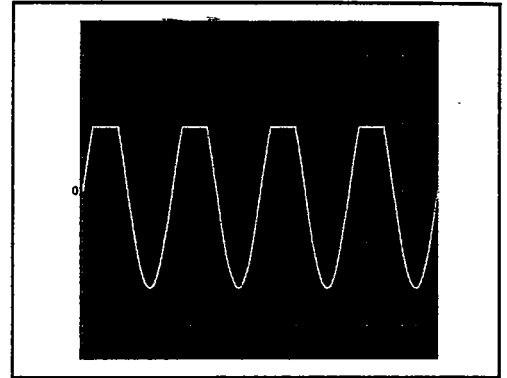

Figure 5-6. Premature Clipping
Does the excessive THD occur only with a load on the channel output? Premature clipping on either the positive or the negative waveform peaks (Figure 5-6) that disappears when the output load is disconnected indicates a likely power supply problem, a zener diode problem, or output transistor problem. Turn off the Variac and check the power supply bridge rectifier(s). All four diodes of the bridge rectifier must be in working condition; replace the rectifier if necessary. Turn the Variac up to full AC mains voltage and check the voltage drop across the zener diodes Z8 and Z9. The
- 2 Does the signal clip prematurely on only positive or negative peaks (Figure 5-6)? If so, check the power transistors associated with that rail (one or more may be defective) as well as zener diodes Z8 and Z9 on the heatsink board, and the bridge rectifier(s) on the power supply board. Follow the tips from Subsection 5.1.5, Step 6.